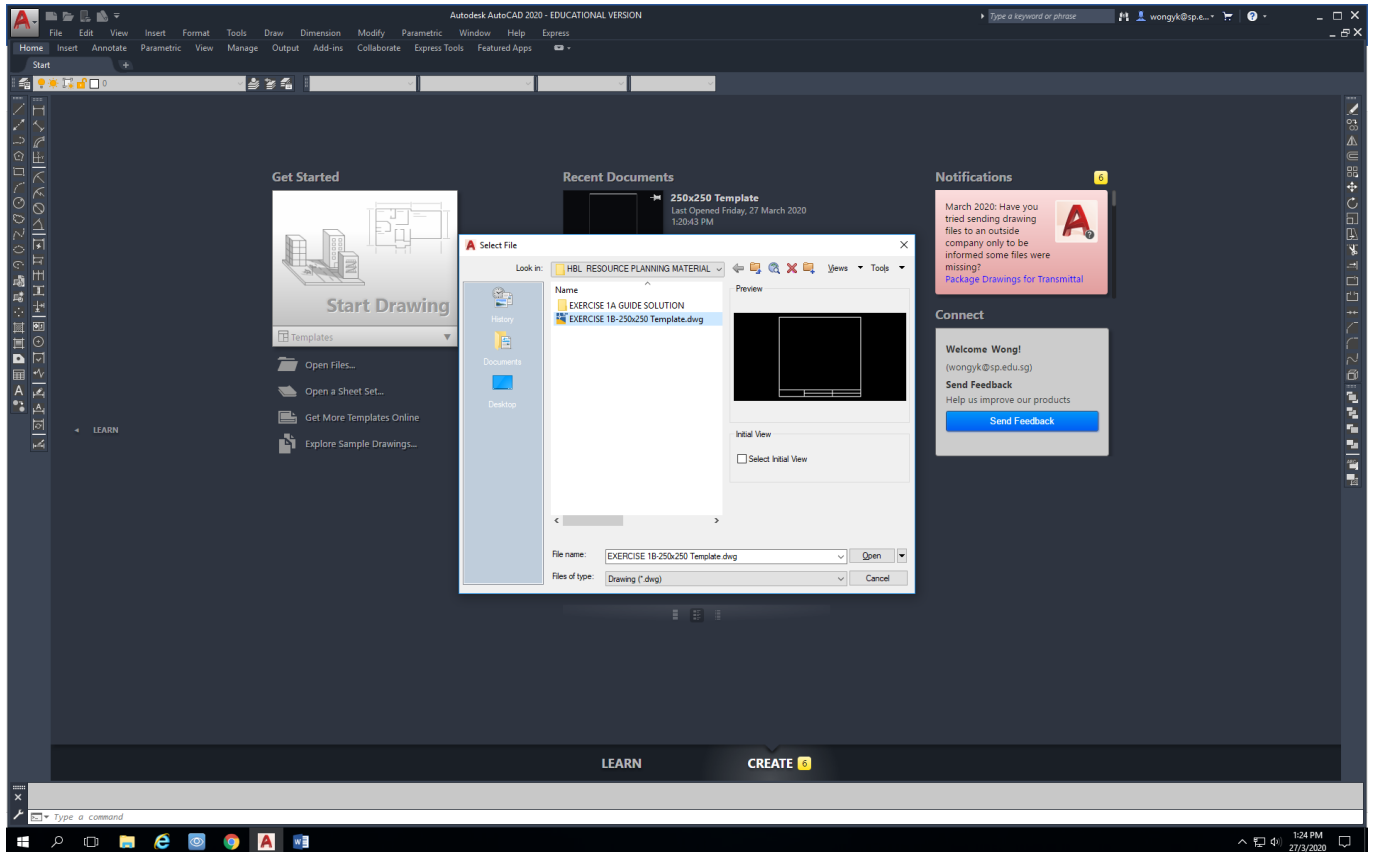

FIG 2
2. See Fig 2 for the steps shown